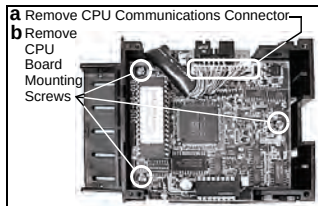

Figure 3-5 Freeing the CPU Board
7. Disconnect the 30-pin CPU Board connector (See Figure 3-5 a), then
8. Remove the three (3) circuit board mounting screws indicated in the Figure 3-5 b photo.